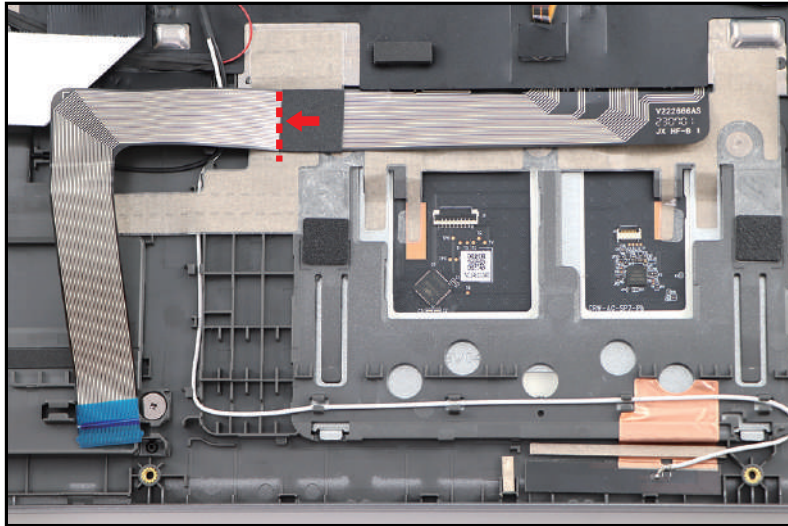

Figure 3-104. Top Assembly
- a. Align and attach the mylar onto the designated location on the keyboard FPC as shown in Figure 3-104.